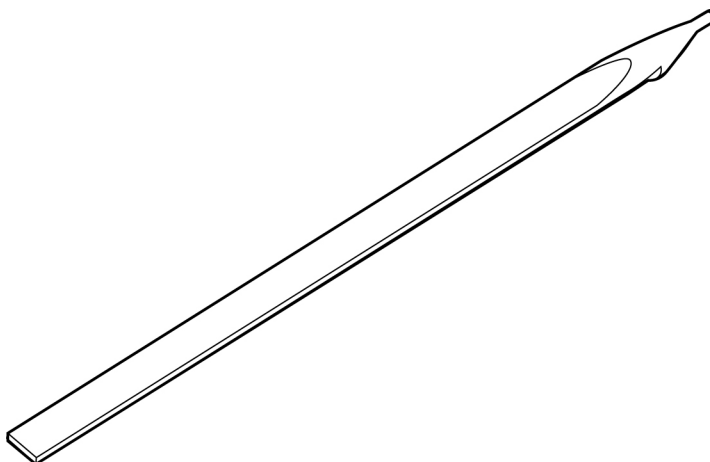

Figure 9. Firing Pin.
e. Broken or chipped firing pin. Refer to Figure 9.	Replace the firing pin. Refer to WP 0012 00.